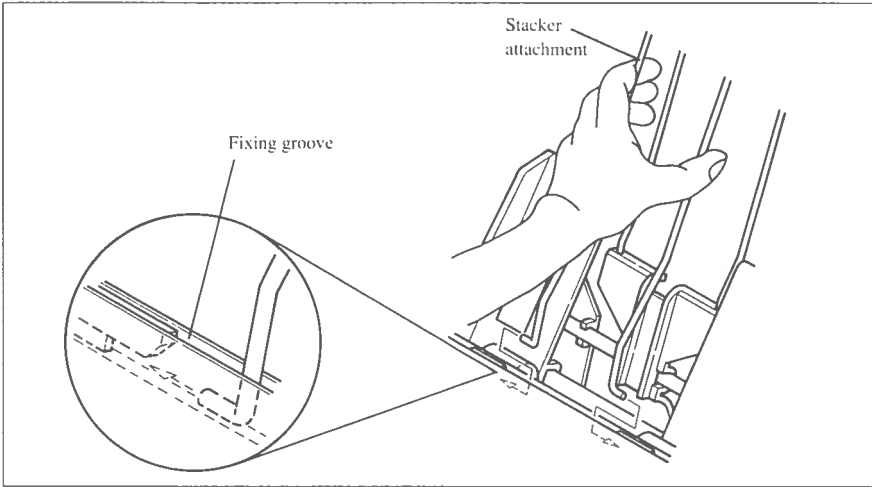

Figure 7-6. Insert the stacker attachment.
9. Insert the stacker attachment, squeezing it with your hand, into the fixing groove in the front part of the sheet feeder as shown in Figure 7-6.